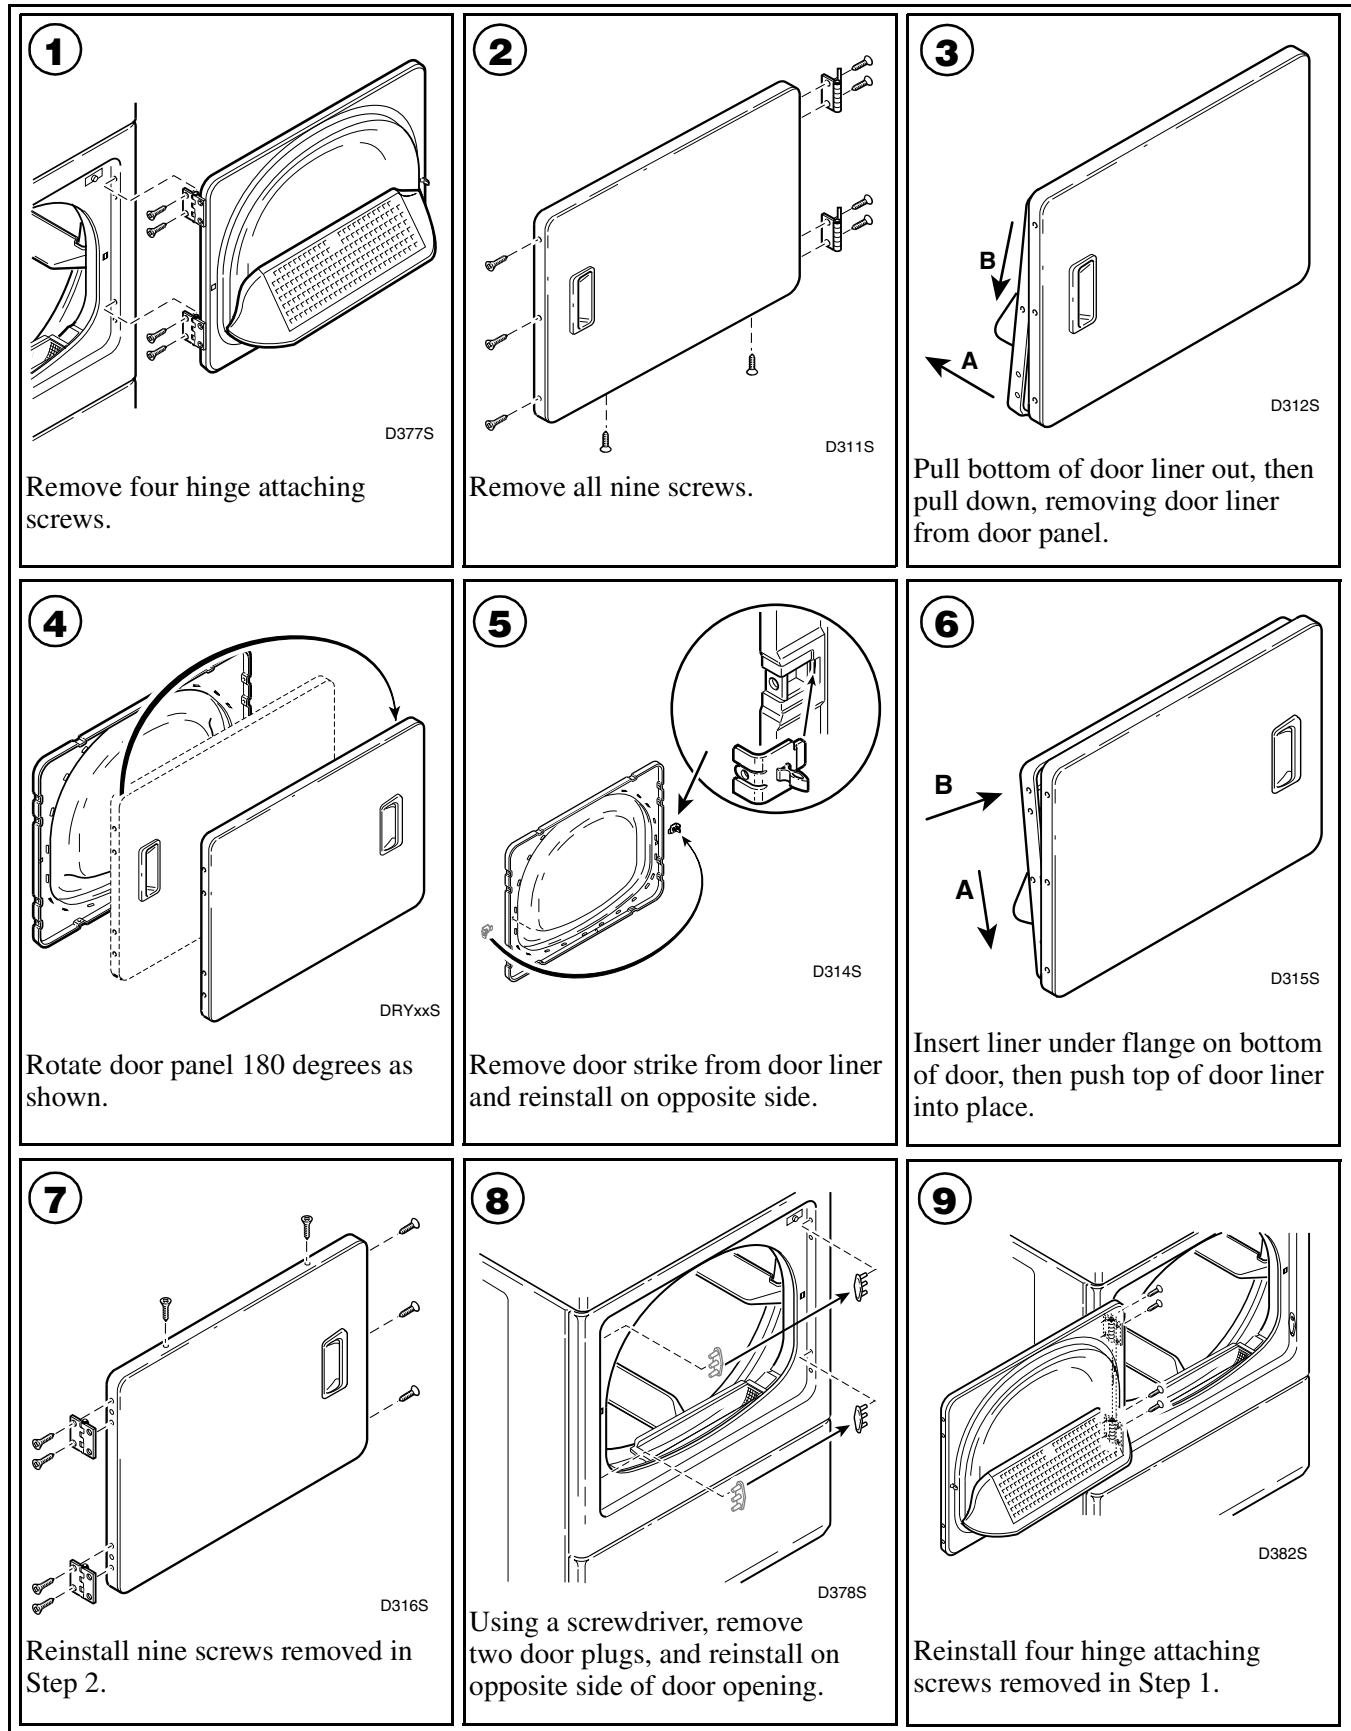

Figure 9
- Remove remaining screws around the door perimeter and separate panels. Refer to *Figure 9*.